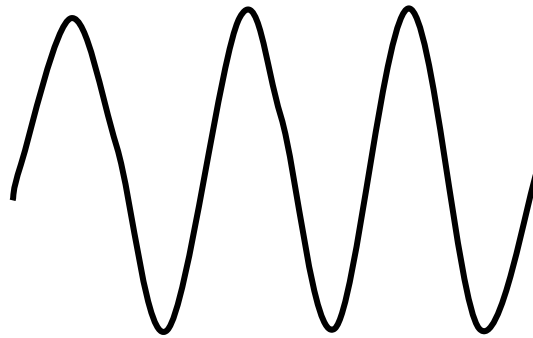

Figure E5.3 Recovered signal at the LPF output
7. Now observe the filter output together with the sinusoidal input waveform on the oscilloscope and hence verify their similarity. Filter 1 (a LPF) has recovered the original sinusoidal input although with some distortion (See Figure E5.3).